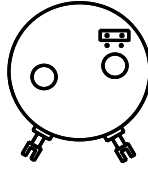

Fig.8: "80°-170° "
-Jumper on top for measuring range between 80° and 170° (fig. 8)